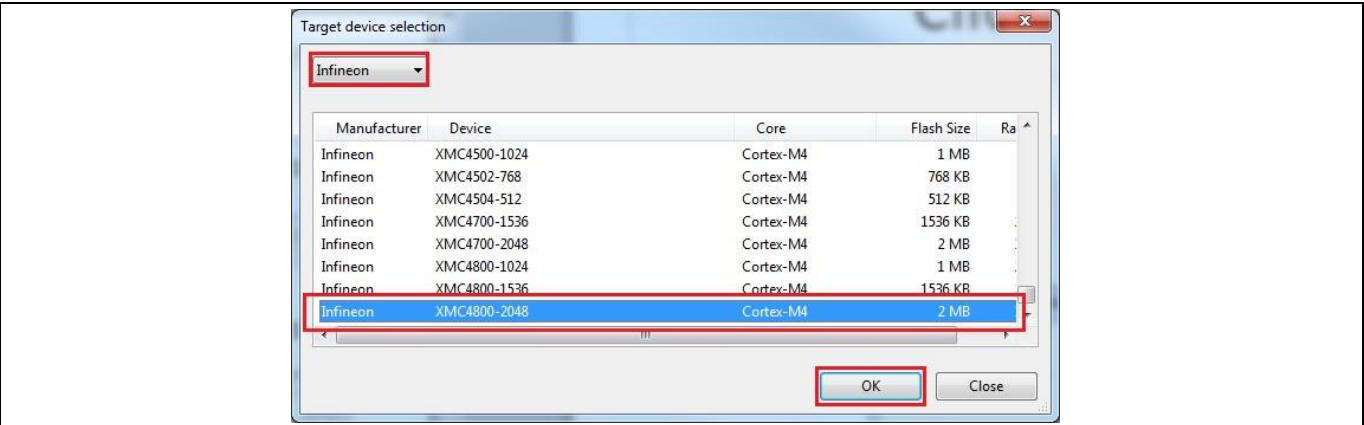

Figure 9 JFlashLite Target device selection
4. After target device selection, click OK on window shown in Figure 9.